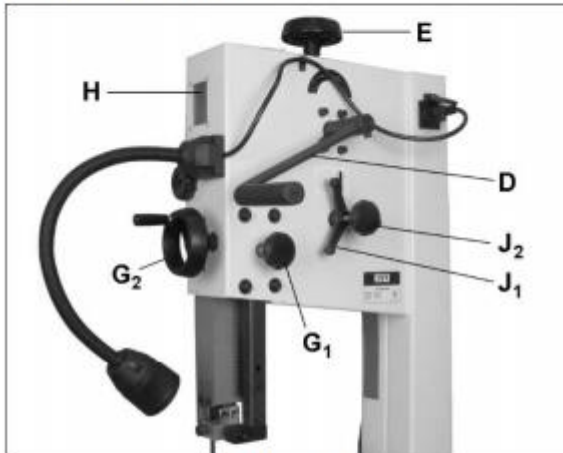

Figure 7-5
Refer to Figures 7-5 and 7-6.
1. Lower tension lever (D, Figure 7-5) to tension position.
2. Set proper blade tension by rotating handwheel (E, Figure 7-5), clockwise to tighten, counterclockwise to loosen.